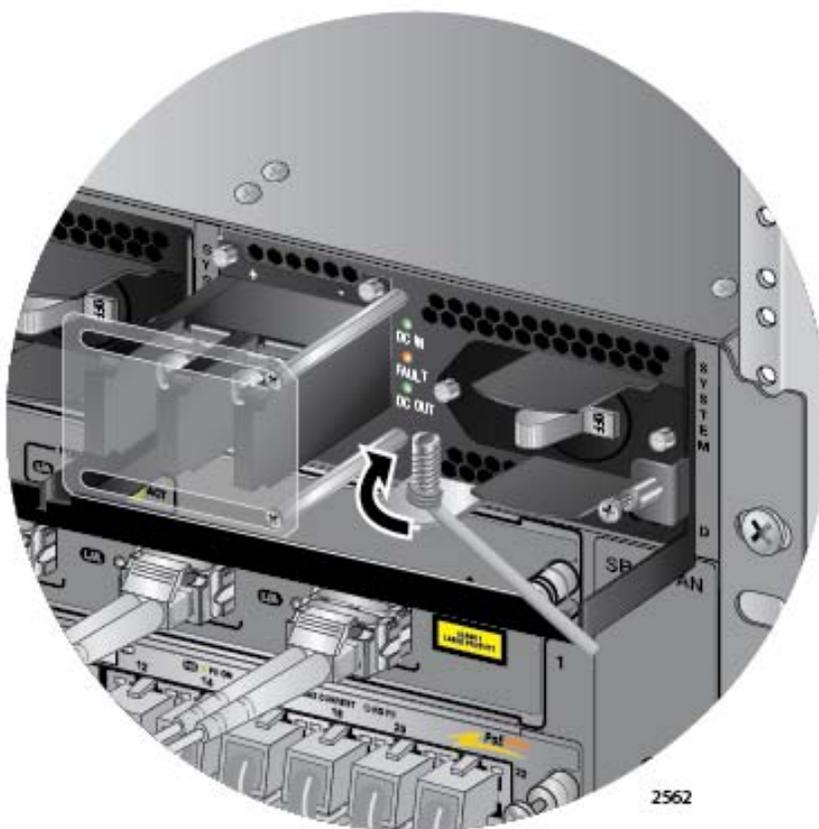

Figure 117. Attaching the Bare Grounding Wire to the Grounding Post
3. Wrap the grounding wire clockwise around the base of the grounding post, as shown in Figure 117.